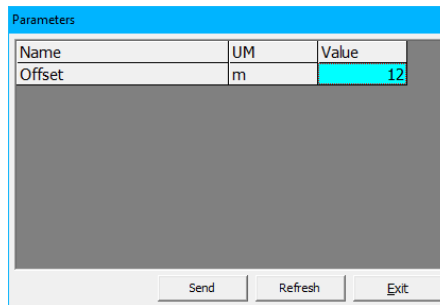

Figure 13.15: modifying a datalogger parameter.
- Insert a new value and press Enter. After that, the box value will be highlighted in light blue (Figure 13.15).